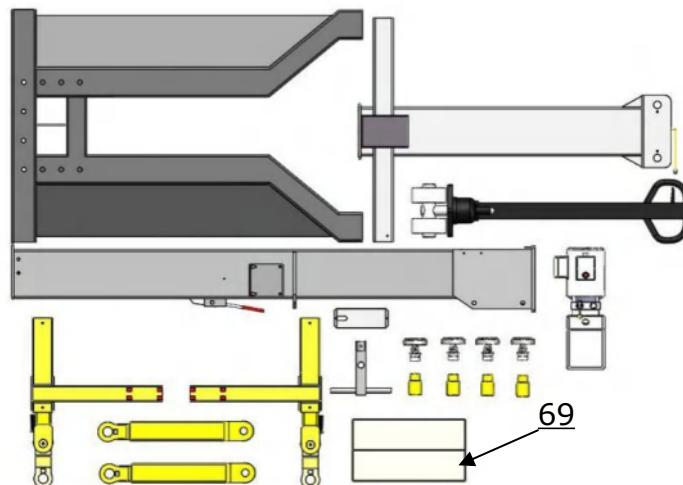

Fig.7
- Move aside all the parts and check according to the shipment parts list (See Fig.7)